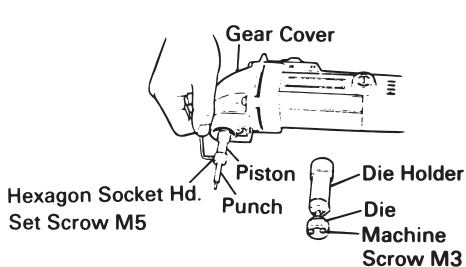

Fig. 8
2. Punch and die replacement (see Fig. 8)